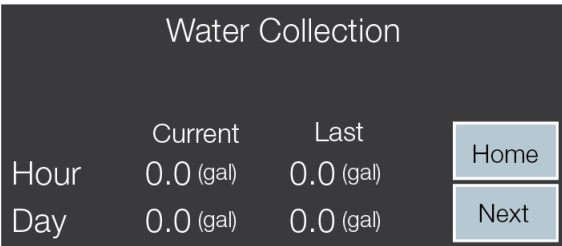

Figure 13. Water Collection (Hour/Day) Screen
- Current and Last Hour accumulation, Current and Last Day accumulation (see Figure 13).